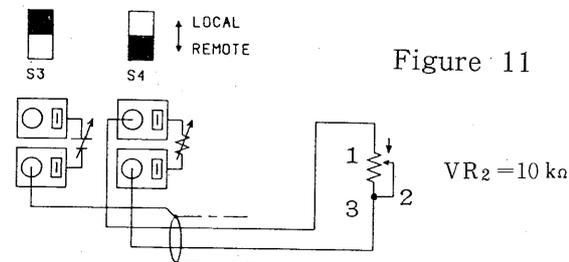

Figure 11
2) Set the CC REMOTE S4 switch on the rear to REMOTE. As shown in Figure 11, connect the external resistor (VR2 = 10 kilohms).
- The terminal (1) of the external resistance (VR2) has the floating potential that is close to the output (+).
- For connection of VR2, use a two-conductor shield. Connect the outer shield as shown in Figure 11.